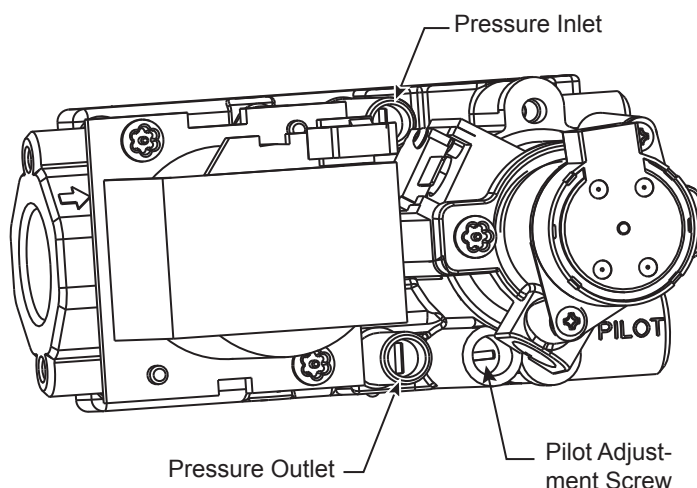

Figure 51 -
4. To check gas pressures at valve, turn captured screw counter clockwise 2 or 3 turns and then place tubing to pressure gauge over test point. Turn unit to high. *Figure 51.* After taking pressure reading, be sure and turn captured screw clockwise firmly to reseal. Do not over torque. Check test points for gas leaks.